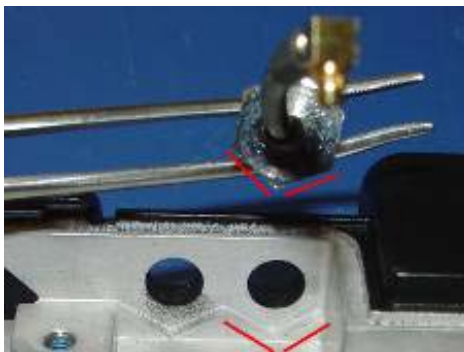

Figure 8-31. Installing two RF Cables into the Main Chassis
6. Install the 2 RF cables through the chassis. Make sure the RF cable connector body aligns with the chassis as shown in Figure 8-31.